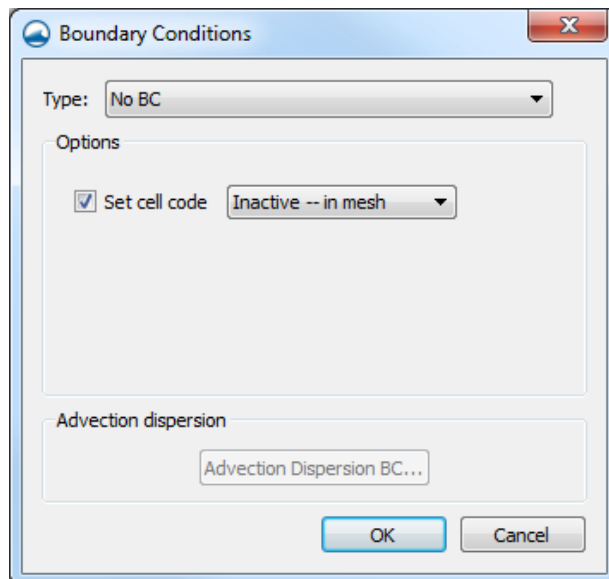

Figure 5 BC Polygon Attributes Dialog
3. Set the "Type" to *No BC* and toggle on the *Set cell code*. Set the "Code" to *Inactive -- not in mesh*. When using this option, TUFLOW will not create 2D cells in this area. (The dialog is shown in  Figure 5.)